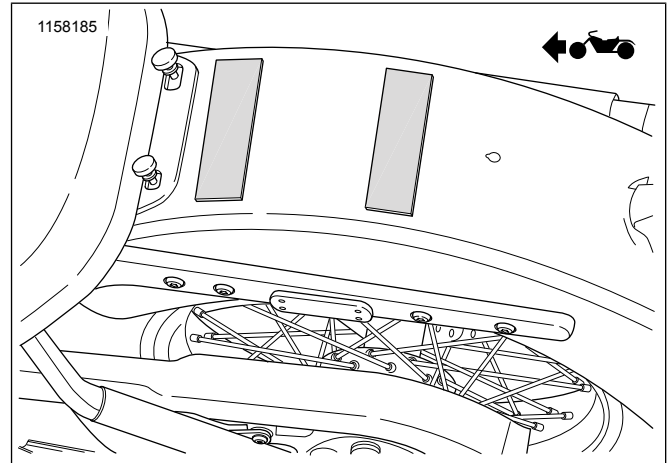

Figure 1. Anti-abrasion Tape Placement
1. Figure 1 Cut anti-abrasion tape into two pieces, trim to width of rear fender and apply.